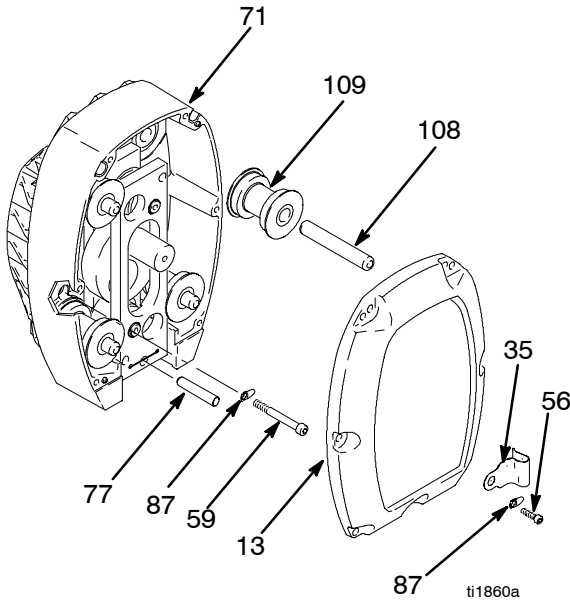

Fig. 1
2. Fig. 1. Remove six cap screws (56) lock washers (87), clip (35), and cover assembly (13).
- Fig. 1. Remove six cap screws (56) lock washers (87) and cover assembly (13).